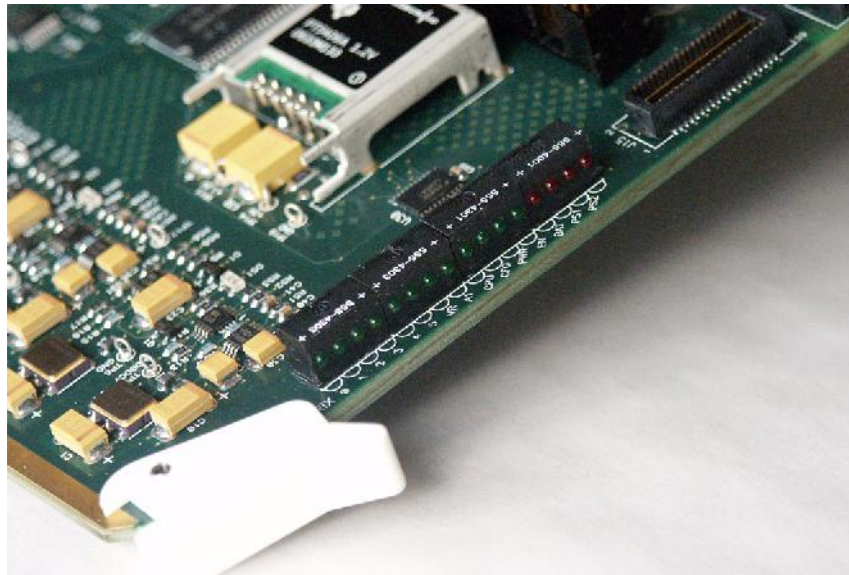

Figure 2-3. Front board edge
- The LED's labeled 'Matrix 0-5' indicate the presence of valid SD or HD video when on, and lack of video when off (Figure 2-3).